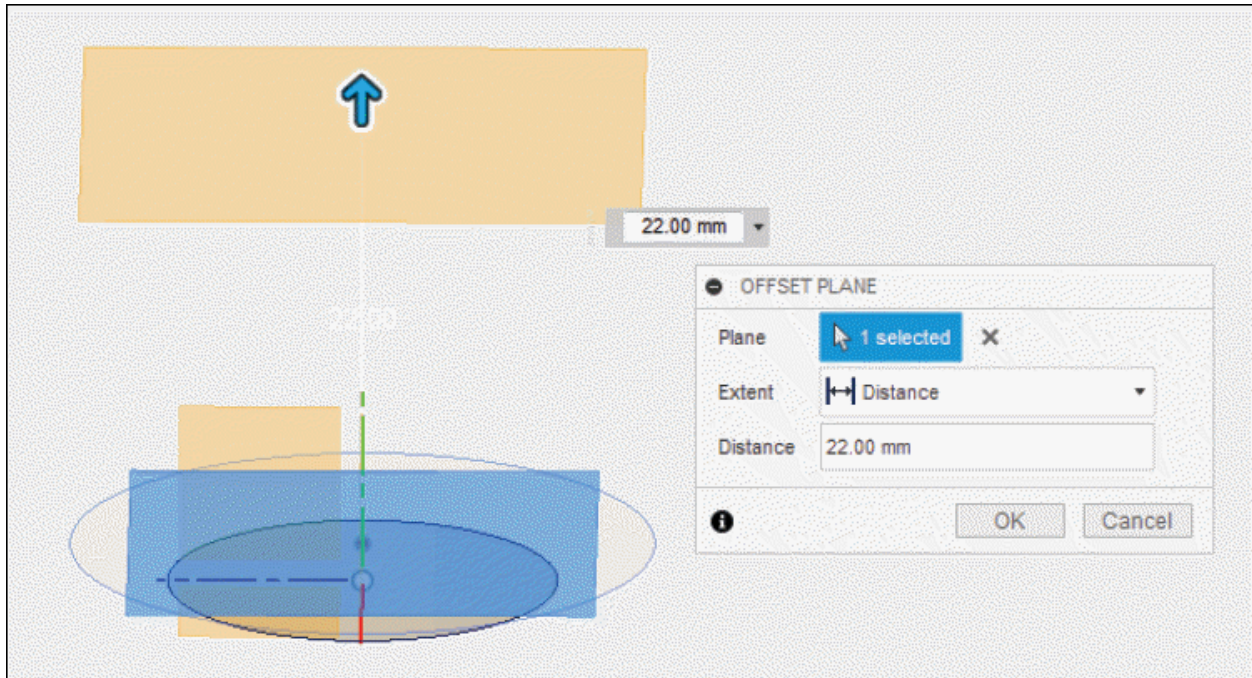

Figure-76. Creating third offset plane
- Click in the **Distance** edit box and enter the value as **22**; refer to Figure-76.